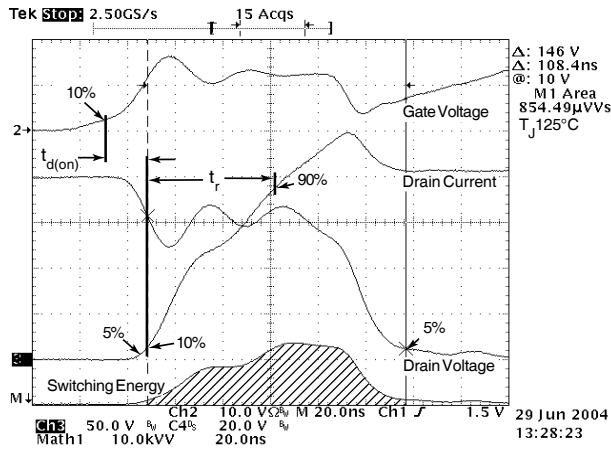

Figure 18, Turn-on Switching Waveforms and Definitions
① Repetitive Rating: Pulse width limited by maximum junction temperature
② Pulse Test: Pulse width < 380 μs , Duty Cycle < 2%
③ See MIL-STD-750 Method 3471
④ Starting $T_j = +25^\circ C$, $L = 0.71mH$, $R_G = 25\Omega$, Peak $I_L = 84A$
⑤ dv/dt numbers reflect the limitations of the test circuit rather than the device itself. $I_S \leq -I_{D84A}$ $di/dt \leq 700A/\mu s$ $V_R \leq 300$ $T_j \leq 150^\circ C$
⑥ E_{on} includes diode reverse recovery. See figures 18, 20.